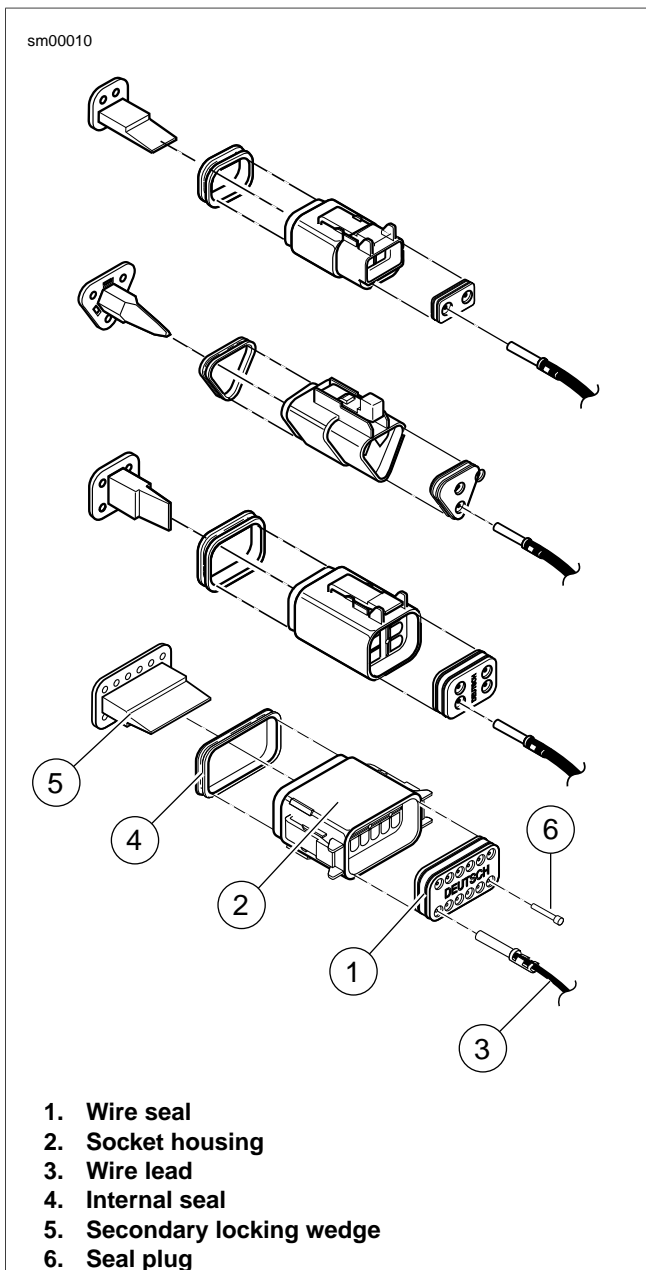

Figure A-14. Deutsch Connector: 2, 3, 4 and 12-Place Socket Housings
2. See Figure A-14. Fit rear wire seal (1) into back of socket housing (2), if removed.
3. Grasp wire lead (3) approximately 1.0 in. (25.4 mm) behind the socket terminal. Gently push socket through hole in wire seal into its chambers until it "clicks" in place.